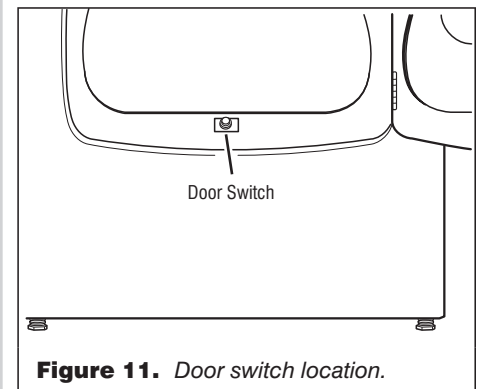

Figure 11. Door switch location.
- ➔ Check that the wires between the door switch and machine control electronics are connected. See figure 11 for switch location and see Removing the Front Panel/Drum Assembly, page 11.